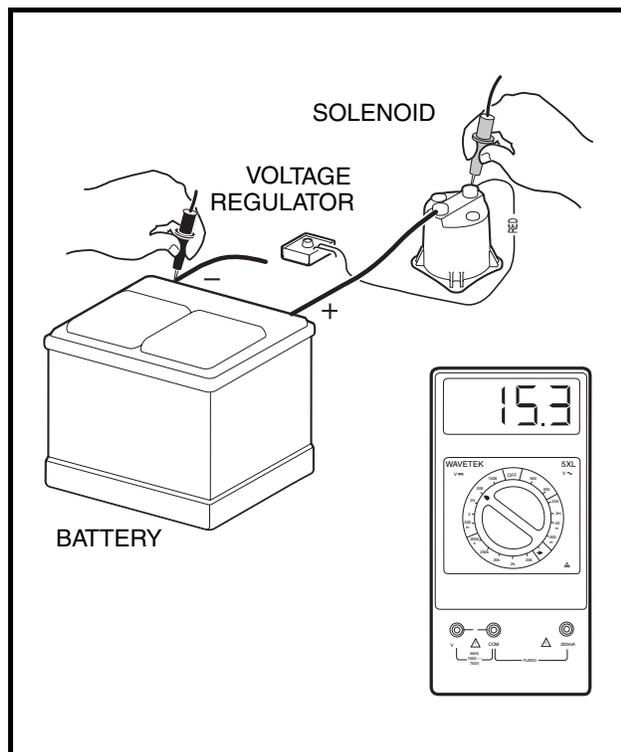

Figure 11-14 Voltage Regulator Test
5. Turn the key switch to OFF, killing the engine. Using a multimeter set to 20 volts DC, place the red (+) probe on the large post of the solenoid with the red wire from the voltage regulator attached. Place the black (-) probe on the negative (-) battery post (**Figure 11-14, Page 11-18**). Turn the key switch to the ON position. Press the accelerator to start the engine and run it at full governed speed. If the reading is between 14.7 and 15.3 volts, the regulator is good. If the reading is lower than 14.7 volts but rising steadily, check battery condition. **See Hydrometer Test on page 11-8.** If the reading is lower than 14.7 volts and not rising, and the starter/generator is good; or if the reading is over 15.3 volts and continues to rise, replace voltage regulator. **See Voltage Regulator Removal, Section 12, Page 12-12.**